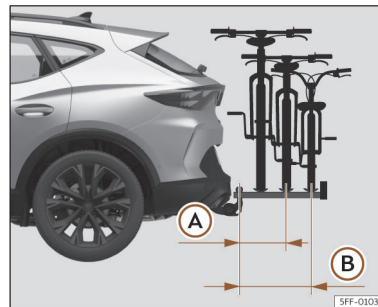

Fig. 198 Schematic representation of the maximum load overhang of a bicycle rack for two or three bicycles.
- (A)** With up to 55 kg load capacity: 500 mm (approx. 19.7 in)
- (B)** With 75 kg load capacity: 700 mm (approx. 27.6 in)
The maximum overhang shall not exceed 500 mm from the centre of the rail of the last support to the centre of the ball head of the tow hitch >>> **Fig. 198 (A)** for two-bicycle racks. In the case of three-bicycle racks, the overhang must not exceed 700 mm >>> **Fig. 198 (B)**.